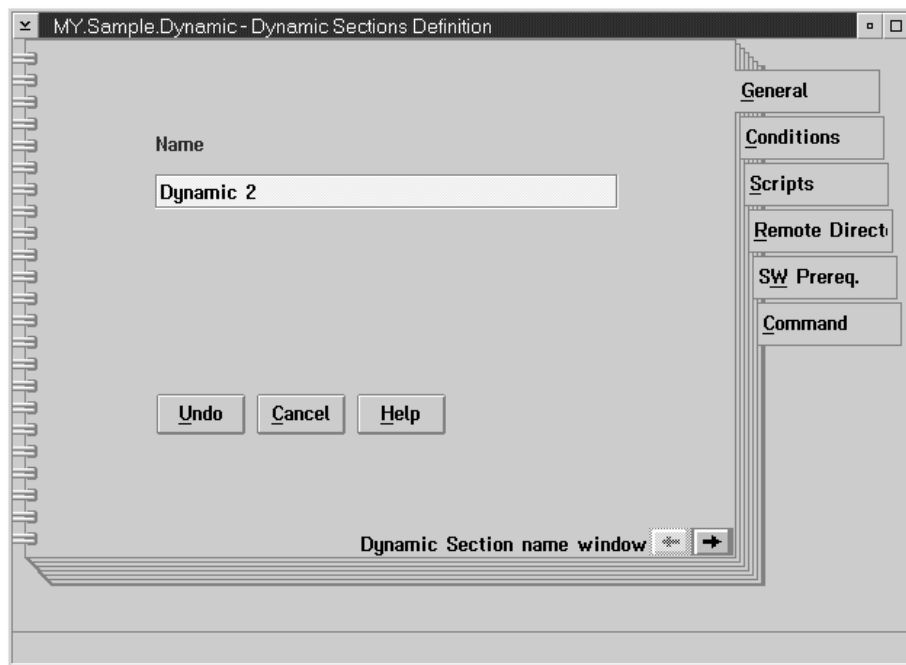

Figure 89. Dynamic sections definition notebook: general page
- 16 Click again on the **Open...** push button. The MY.Sample.Dynamic - Dynamic Sections - Definition notebook is displayed, as shown in Figure 89 on page 177.